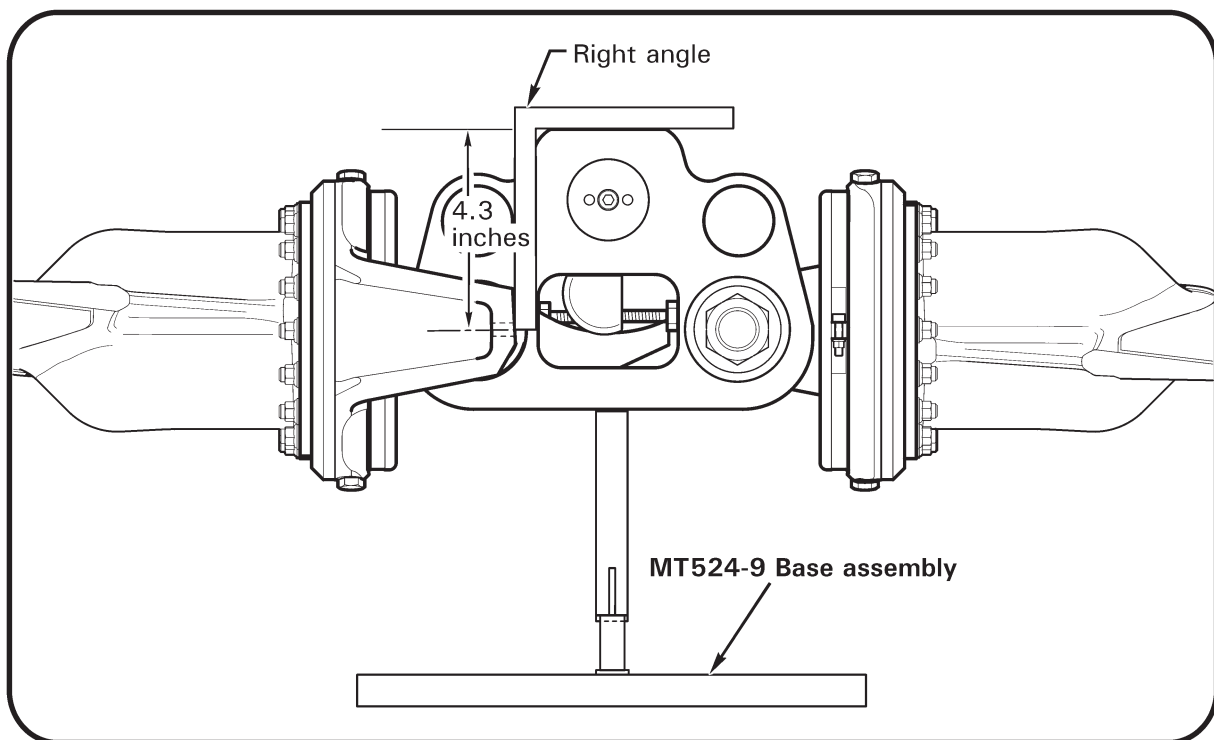

FIGURE 28-11B EQUALIZING BLADE PITCH
4. Refer to Figure 28-11B. Verify blade pitch angles are approximately equal with pitch horns adjusted as shown. If blade pitch angles are not equal, then pitch horn(s) are not correctly installed.